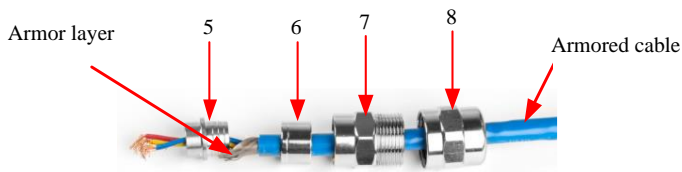

Figure 9
- (2) According to the wiring requirements of the explosion proof peristaltic pump, peel off the appropriate length of cable outer sheath to expose the metal armor layer. Leave an appropriate length of armor layer, cut off excess parts, and treat the cable. If it is a strip armor layer, separate the strip armor layer and use scissors to cut it into several small strips. As shown in the following Figure 9. If the metal armor layer is wire or mesh armor layer, the same treatment shall be applied.
Thread the processed cables through parts 8, 7, 6, and 5 in sequence, with a sealing ring installed in part 8 and placed on the cable sheath, as the following Figure 9 shows: